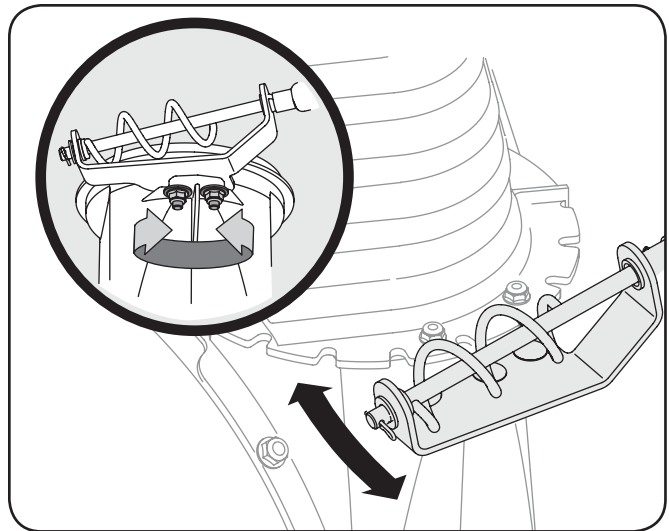

Fig. 3-5
- Loosen but do not remove, the chute bracket in order to attach the chute assembly. See Figure 3-5.